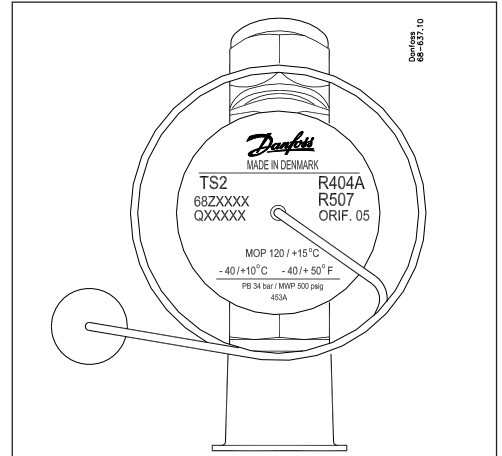
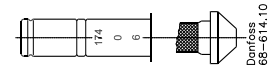

Fig. 1 Power element
Fig. 2 Orifice assembly and filter for T 2 and TE 2
Main valve data is indicated on the valve element (fig. 1), and on the bottom of the orifice assembly (fig. 2).
*Orifice assembly for T 2 and TE 2 (Fig. 2)*